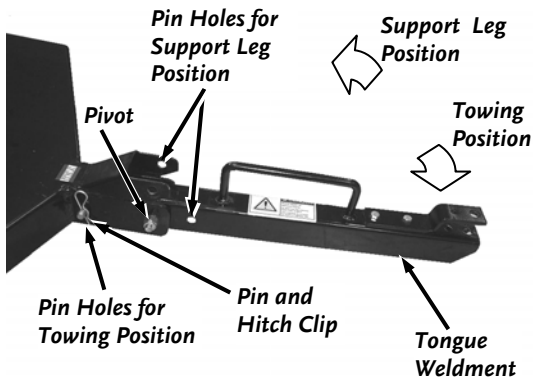

Figure 19
2. Pull the Hitch Clip from the Pin and remove the Pin (**Figure 19**).